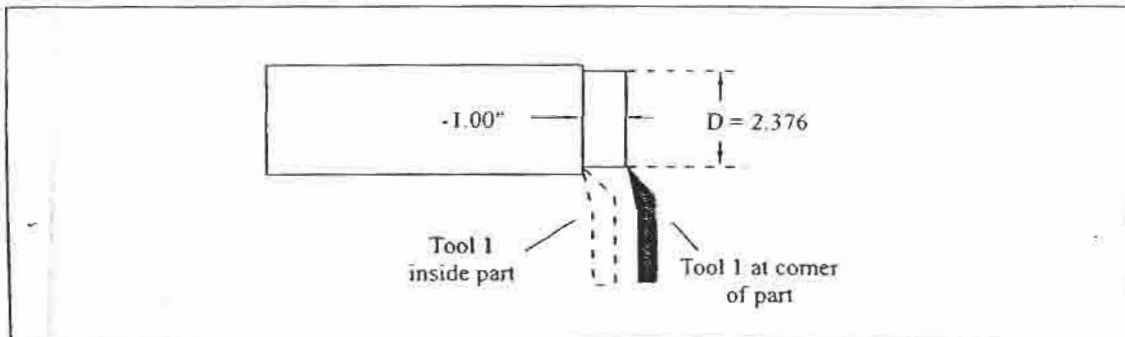

Figure 2
- 5.) Position the tool at the corner of the part or at any known position as shown in Figure 2.